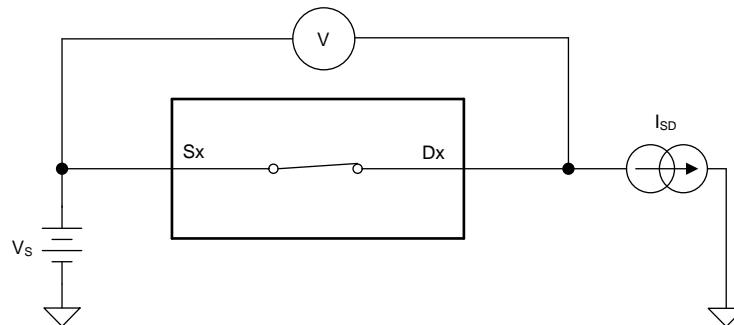

图 27. On-Resistance Measurement Setup
The on-resistance of a device is the ohmic resistance between the source (Sx) and drain (Dx) pins of the device. The on-resistance varies with input voltage and supply voltage. The symbol  $R_{ON}$  is used to denote on-resistance. The measurement setup used to measure  $R_{ON}$  is shown in 图 27. Voltage (V) and current ( $I_{DS}$ ) are measured using this setup, and  $R_{ON}$  is computed as shown below with  $R_{ON} = V / I_{DS}$ :